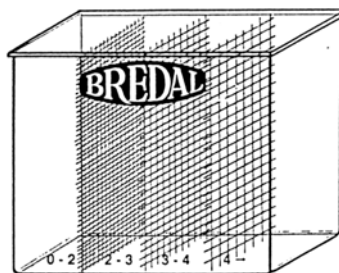

Fig. 27. Riddle box for grain size.
- B) Grain size** can be measured with the help of BREDAL's riddle box. Fill up the space above the riddle with the largest meshes. Put the lid on and shake until no more changes of distribution occur. Turn the box with the lid pointing upwards. Measure with a tape measure or a ruler. Measure the number of mm in each compartment. Find out the % distribution for each compartment (fig.27).